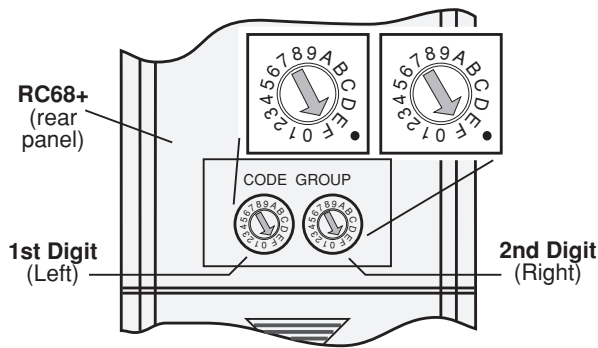

FIG. 5 Switches set to FF for Code Group changes. Refer to step 2.
2. Using a small blade screwdriver, rotate each of the two Code Group Setting Switches on the **rear** of the RC68+ to the **F** position (**FF**). See **Fig. 5**.